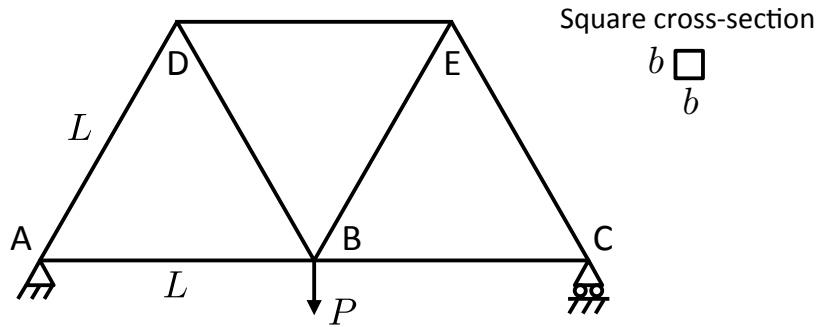

Figure 1: A simple statically-determinant truss.
(1) Part:
- Sketch the part as pictured in Fig. 1 and click Done
(2) Property:
(3) Assembly: